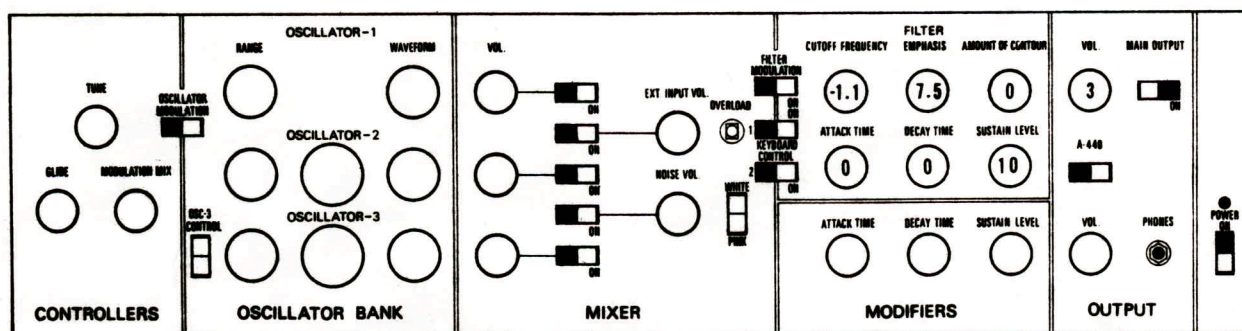

FIGURE 2
1. Set the front panel controls as shown in Figure 2.